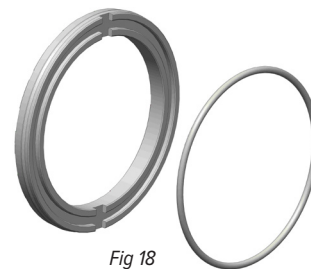

Fig 18
1. Place the impeller and impeller drive assembly (items 2B, 3, 3A, 4, 4A & 4C) on a table with the eye of the impeller facing up.
2. Using petroleum jelly or similar substance, place the o-ring (item 2B) into the groove on the rear of the impeller thrust ring (item 3A). See figure 18.